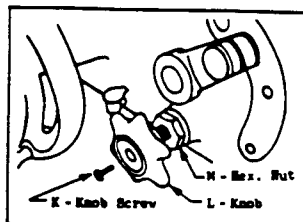

FIG. 2
12. Remove screw "K" (has left hand thread), knob "L" and nut "M" (Fig. 2).